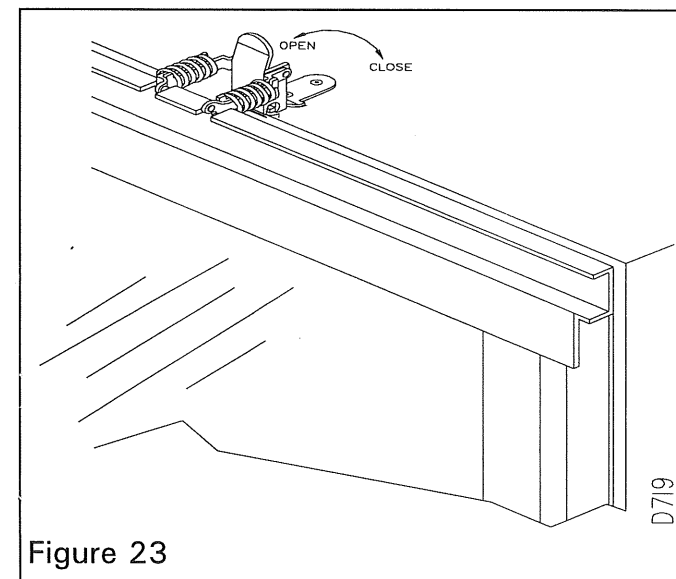

Figure 23
3. To open the glass door, undo the latches located on the top and bottom side of the firebox, (see **Figure 23**). Then carefully swing the door to the left. The glass door is securely mounted to the firebox by means of six screws.